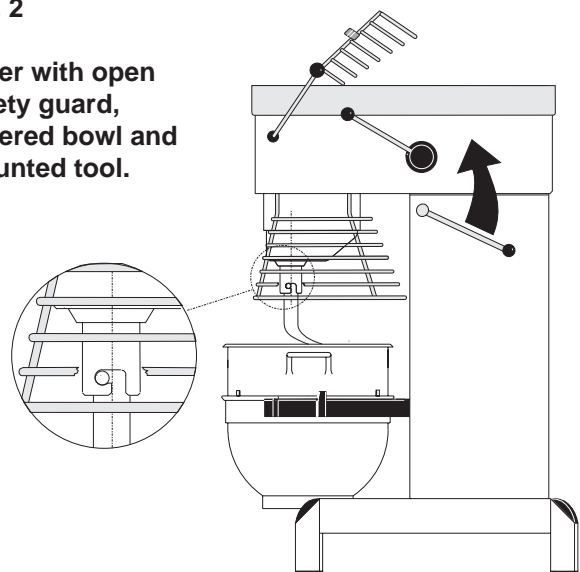

Fig. 3
- Open the safety guard and place the bowl in the bowl arms. **OBS:** The bowl arms must be in lowest position and the bowl must be pushed all the way into the bowl arms. The bowl's "centre ear" must be turned in towards the mixer (**fig.2 and fig.3**).